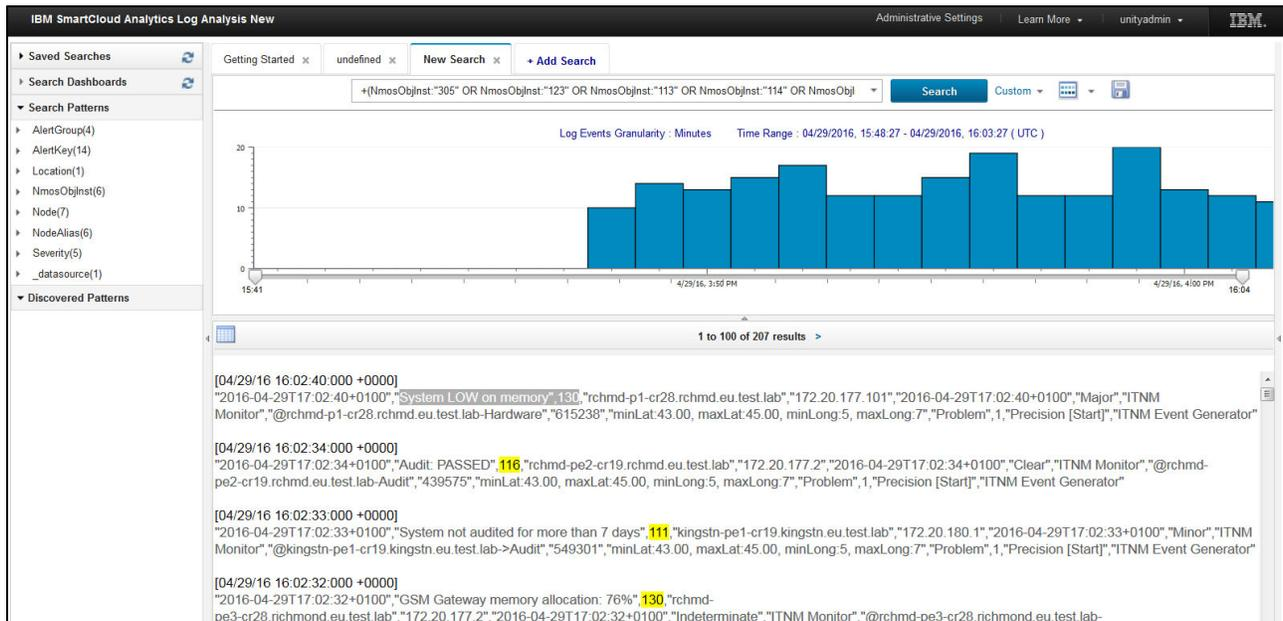

Figure 5-6 Dashboard view
- While clicking one of the routes, Tom can see a timeline and issues description. Because he investigates the memory issue now, the issue that interests him is low memory error between the devices, as shown in Figure 5-6.